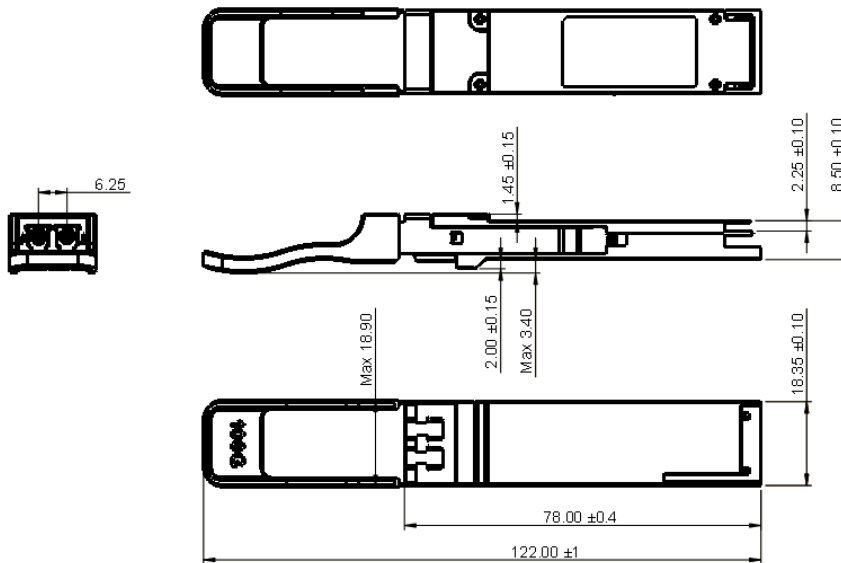

Figure 4. Mechanical Outline
4. Measured with conformance test signal for BER = 2.4x10⁻⁴. A compliant receiver shall have stressed receiver sensitivity (OMA_{outer}) values below the mask of Figure 4, for SECQ values between 0.9 and 3.4 dB.